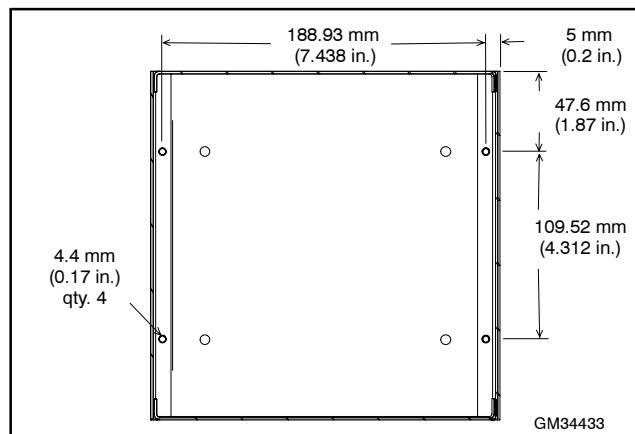

Figure 14 Drilling Mounting Holes in Hoffman Box for RSA Front Panel Assembly
- 3.5.2 Use wall mounting plate GM33031 as a template and drill four 4.4 mm (0.17 in.) diameter holes in the Hoffman box front edge for mounting the RSA front panel assembly if not already done. See Figure 14.